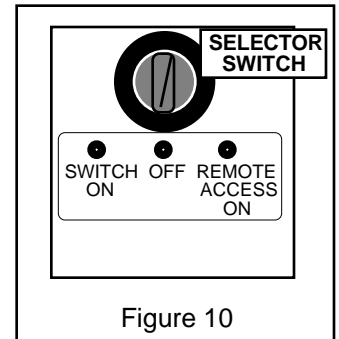

Figure 10
3. Place the **Control Selector Switch** (Figure 10) in OFF. Accessory Controls must also be turned "OFF" (Remote Control) or to lowest temperature setting (Thermostat).